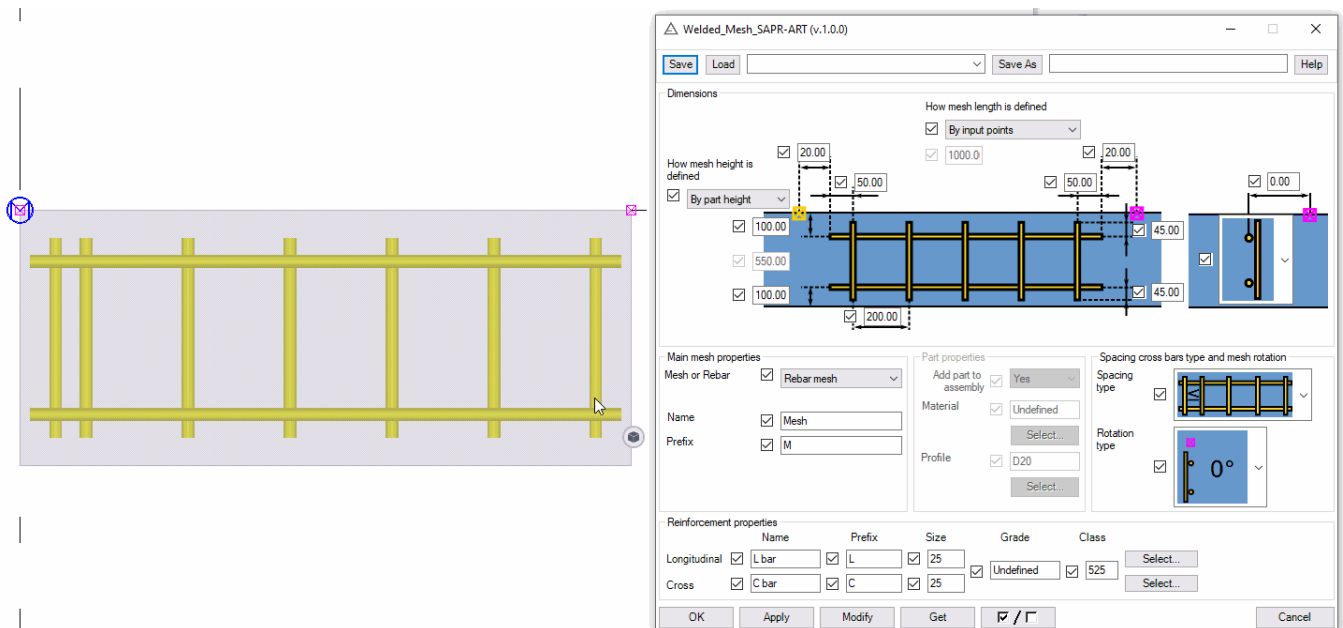

Figure 4. Modifying height of the mesh
- Height of the mesh. It's possible to set height by two different ways - automatically or by manual input (realization of this property see figure 4)